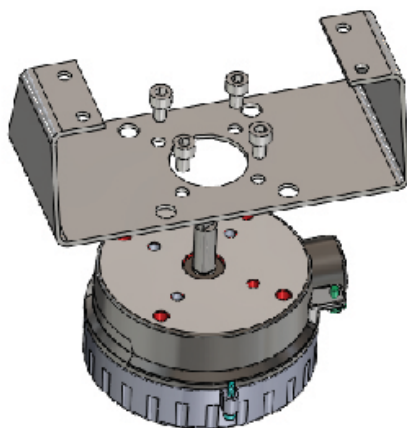

Figure: 10 Automax Bracket
- 1 Attach the mounting plate to the positioner using 4 screws. (Figure 10)